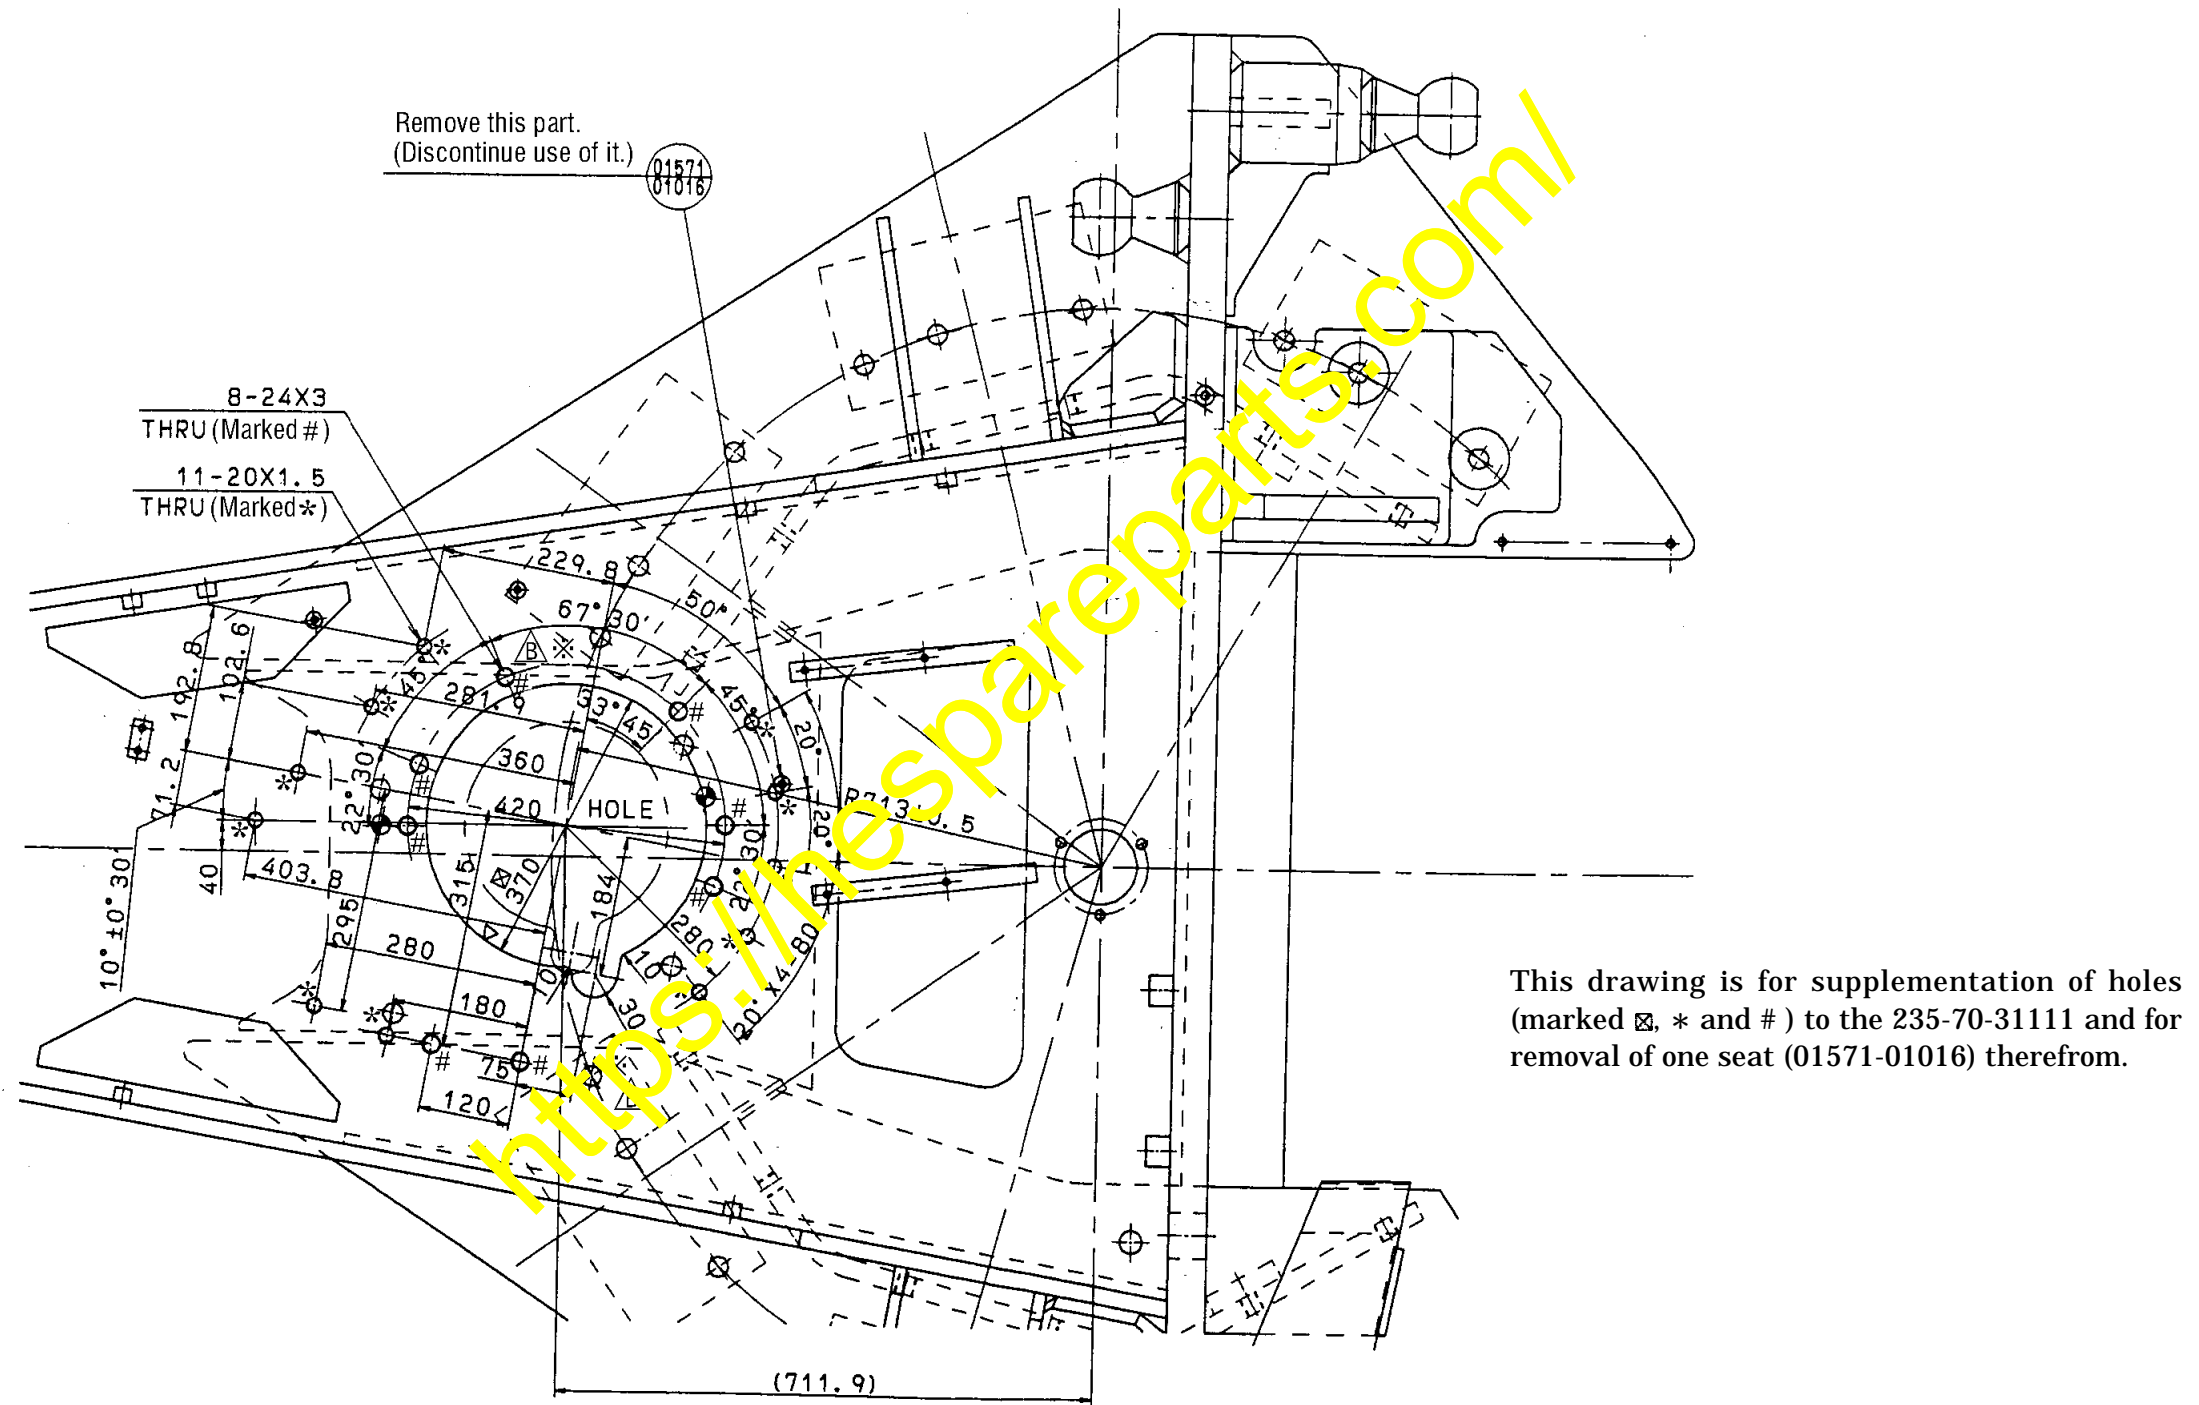

Fig. 3 Reworking with the draw bar
- ② In case of the GD825A-2 (#12001 thru #12050), rework the draw bar according to the instructions given in Fig. 3 indicated below.